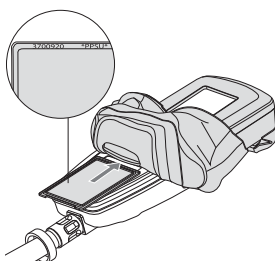

Fig. 52 Fitting the LCD protective cover
9. Fit the protective cover over the LCD screen (Fig. 52).
Use the partly fitted rubber cover to hold the protective screen in place. Ensure that the cover is orientated as shown, with the notch towards the bottom of the screen and the part number facing upwards (Fig. 52).